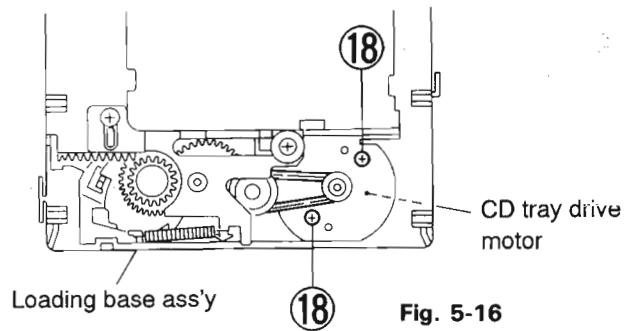

Fig. 5-16
■ How to Remove the CD Tray Drive Motor and its P.C.board (Refer to Figs. 5-16 and 5-17)
6. From the loading base ass'y, remove the two screws (18) retaining the CD drive motor.